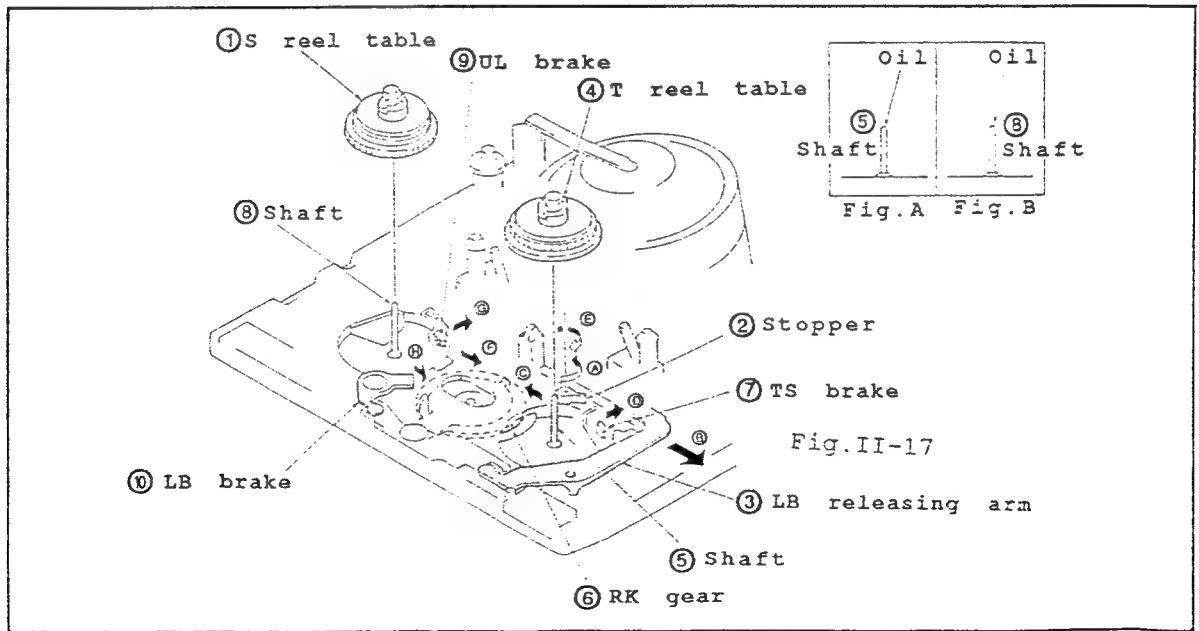

Fig.II-17
• Disassembling (Fig.II-17)
- (1) In the same procedures in "3-4", dismount the S and T brake.
- (2) In the same procedures in "3-5", detach the TL plate.
- (3) In the same procedures in "3-11", take off the tension regulator band.
- (4) Dismount the S reel table ①.
- (5) Turn the stopper ② in the direction of Ⓐ by 90° approximately.
- (6) While shifting the LB releasing arm ③ in the direction of Ⓑ, dismount the T reel table.
• Reassembling (Fig.II-17)
- (1) Apply the 1/2 drop of oil to the shaft ⑤. (Fig.A)
- (2) Rotate RK gear ⑥ to the direction of Ⓒ.